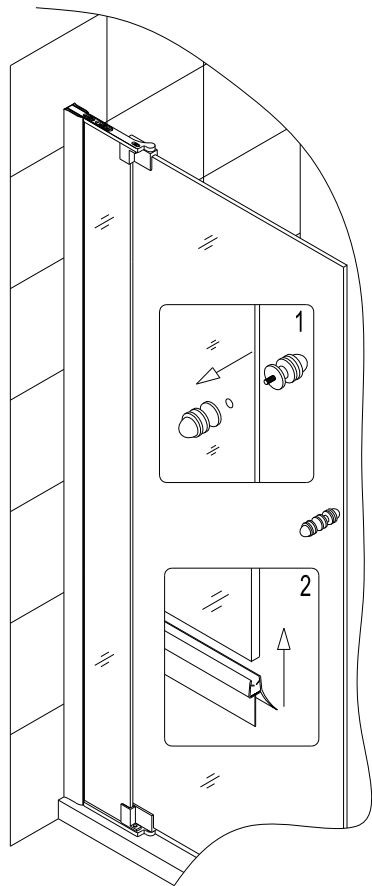

Fig 13
13. Install the **Handle (7)** onto the glass door. Attach the **Bottom anti-water strip (23)** onto the glass door. (You can cut the anti-water using a knife). See Fig 13 for details.